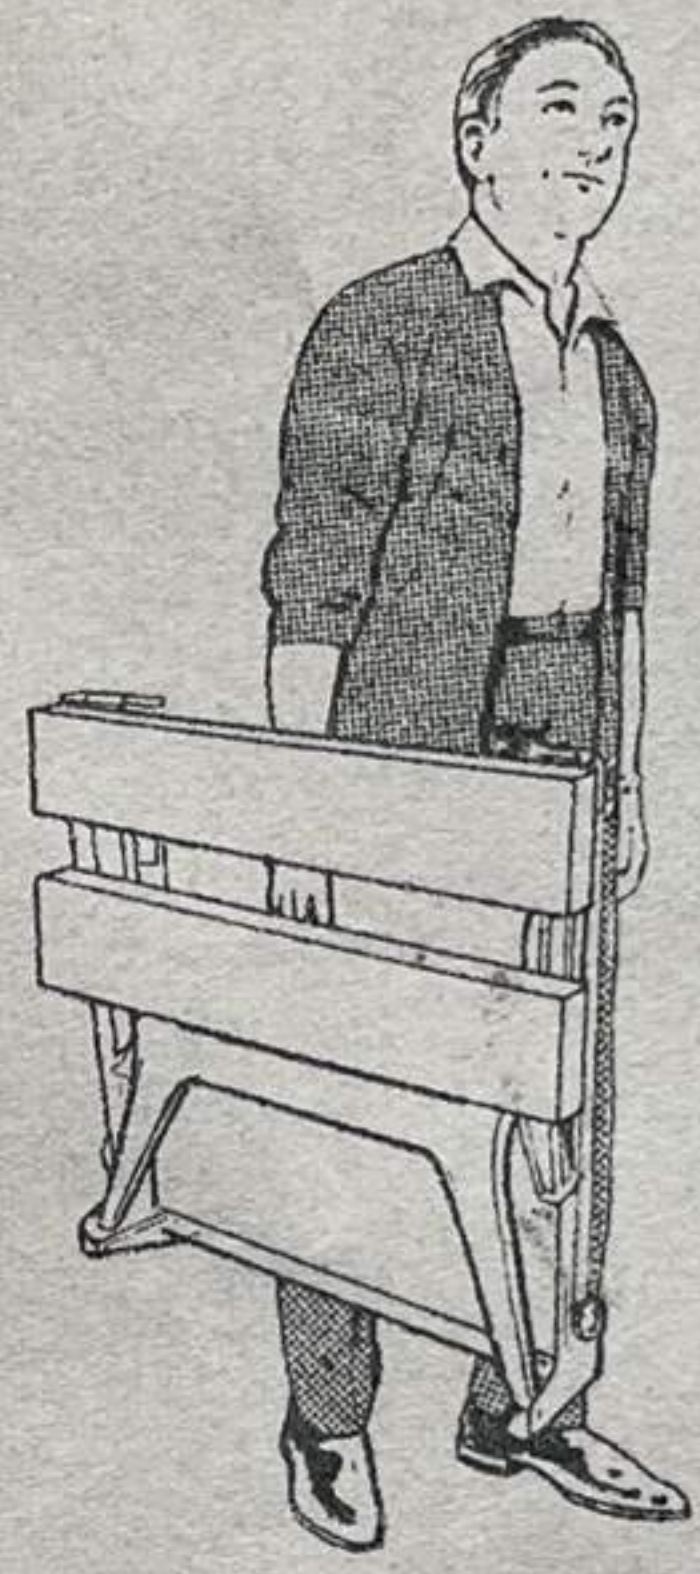

Fig. 3
**METHOD B** (see Fig. 3) With the base-board towards you, reach down and lift under the cross bar of the front leg casting. (This way you lift the unit higher off the floor, but you may find the casting 'cuts' uncomfortably into your fingers after a while).